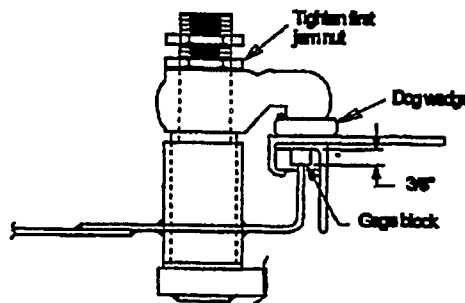

Figure 600-2.48. Dog Adjustment without Gasket Installed
- Tighten the first jamnut or self-locking nut down until the knife-edge hits hard against the 3/8-inch thick gauge block. See figure 600-2.48.